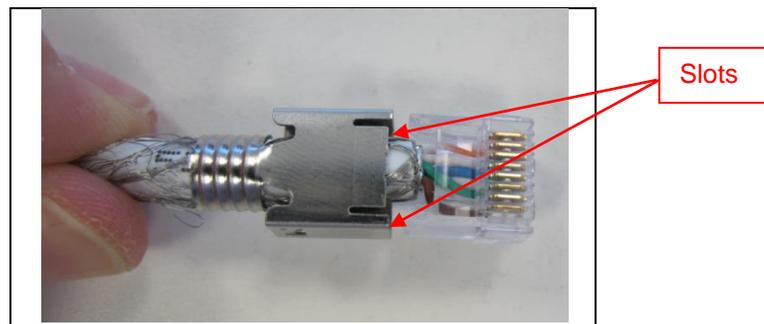

Figure 12. Orient Shield
1. Shield orientation: Place the shield so the slots are in the same side as the contacts. See Figure 12.